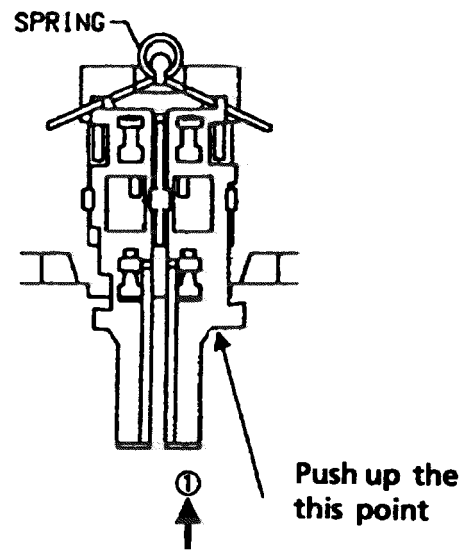

Fig 8
1. Remove the (1)(2)(3)and (4),(5),(8) .
3. Push up the Elever as shown in the figure below(Fig . 8) and remove the door lock plate.